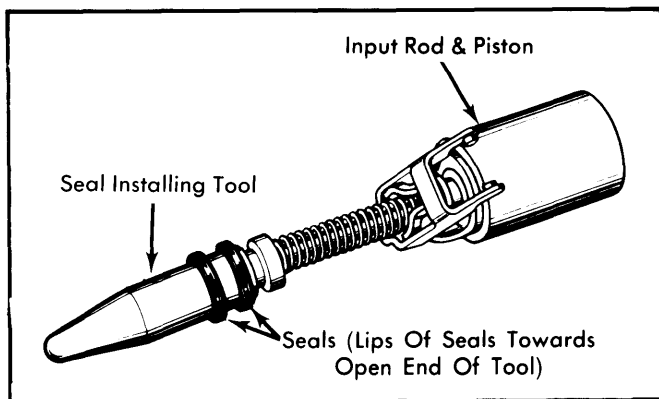

Fig. 7 Installing Input Rod Seals
4) Slide seals on tool with lip of cups toward open end of tool. See Fig. 7. Slide tool over input rod end and down to second groove. Then slide forward seal off tool and into groove. Assemble other seal in first groove. Make sure both seals are seated.